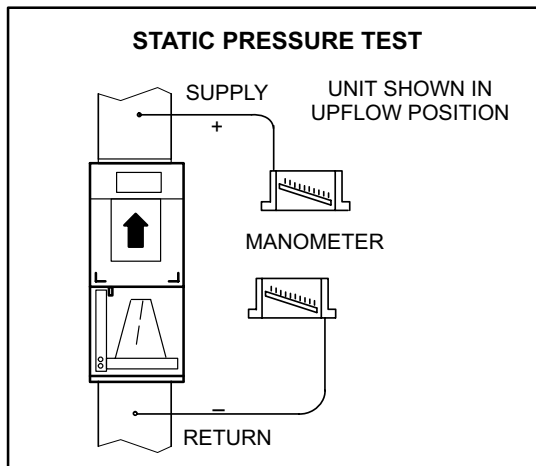

FIGURE 33
1. Measure tap locations as shown in figure 33.